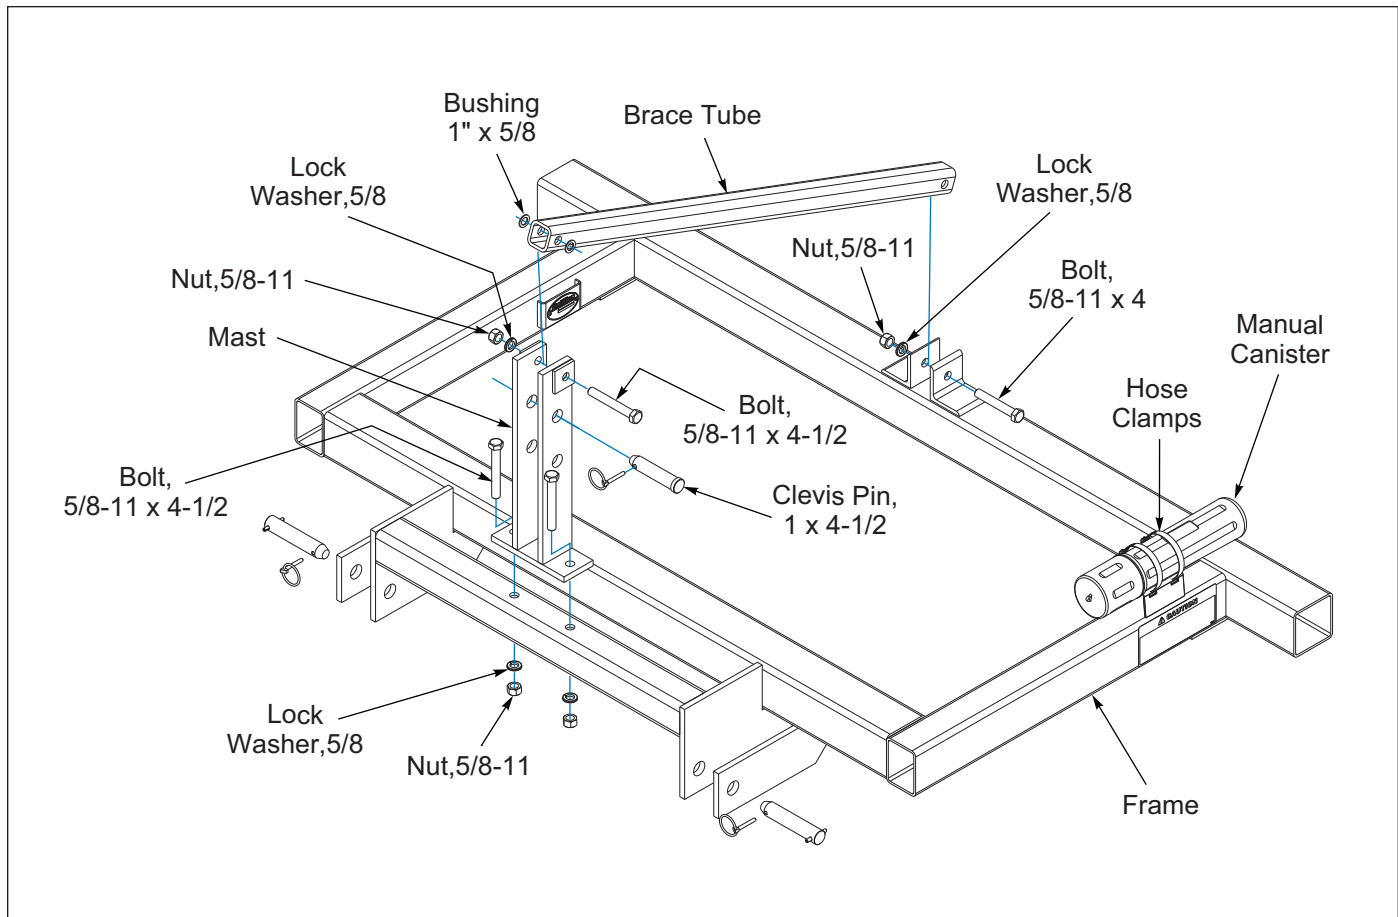

Figure 2-2: Main Frame Assembly
4. Place the two Machinery Bushings between the Brace Tube and Mast Uprights. **See Figure 2-2.**
Install the Manual Canister to the frame with Hose Clamps. **See Figure 2-2.**